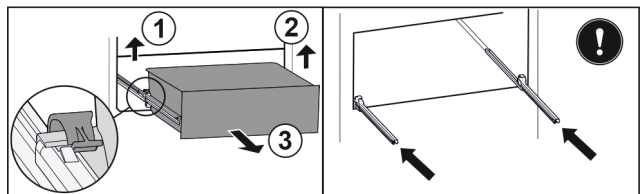

Fig. 133
- ▶ Lift left clamp and simultaneously pull drawer forwards on the left. *Fig. 133 (1)*
- ▶ Lift right clamp and simultaneously pull drawer forwards on the right. *Fig. 133 (2)*
- ▶ Remove drawer to the front. *Fig. 133 (3)*